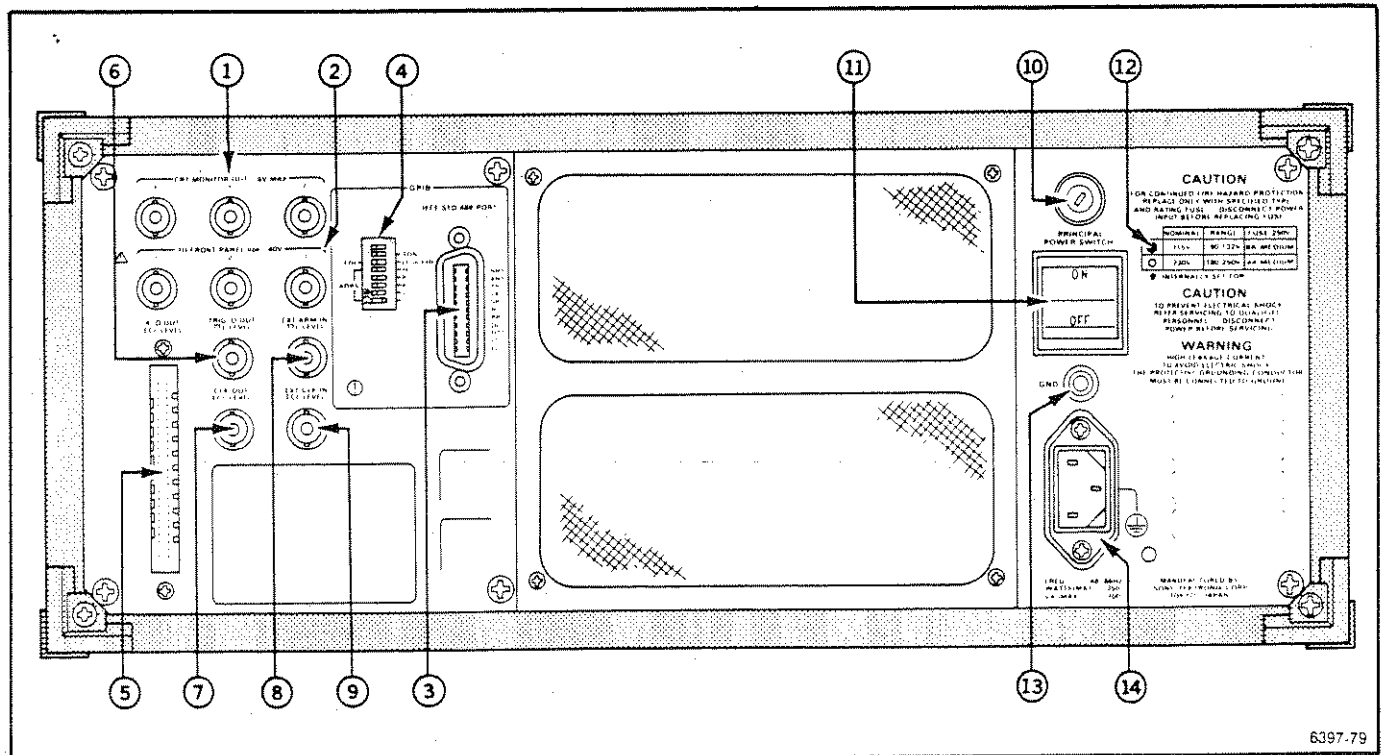

Fig. 3-9. RTD 710A rear panel.
Refer to Fig. 3-9 for location of items 1 through 14.